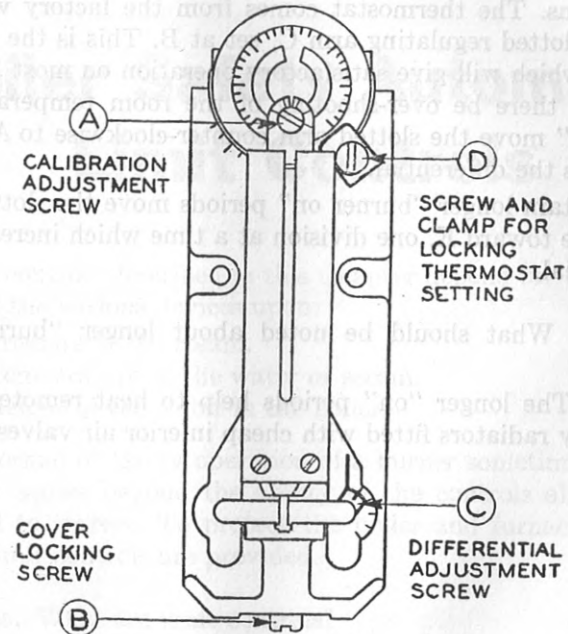

Fig. 5—Differential adjustment mechanism of Silent Glow Series 100 thermostat.
**How the Differential is Adjusted in Practice.**—To illustrate, a Twin Contact Series 100 thermostat is selected, as shown in fig. 5.